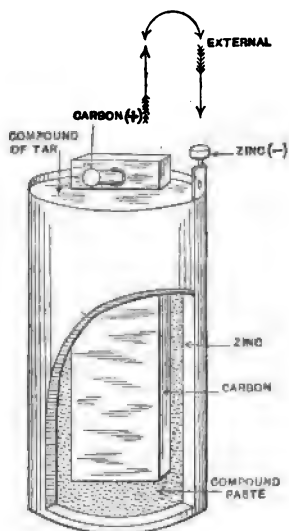

FIG. 56. — Dry cell.
*Dry cells.* The dry cell (see figure 56) is now largely replacing the wet cell on account of its greater convenience for